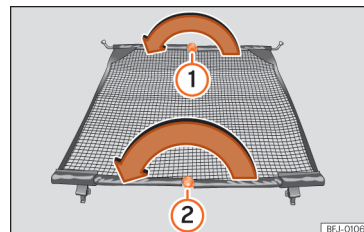

Fig. 167 Folding in the net partition.
- Press on the release button » » Fig. 167 ① and bend the cross rod in the direction of the arrow with the button pressed.
- Press on the release button » » Fig. 167 ② and bend the cross rod in the direction of the arrow with the button pressed.